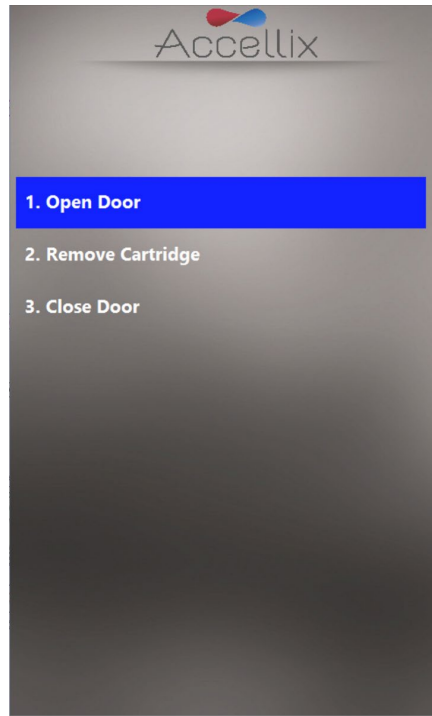

Figure 44: Remove Cartridge screen displayed following conclusion of test
14. On-screen instructions (Figure 44) prompt the user to open the instrument door, remove the cartridge, and finally to close the instrument door.